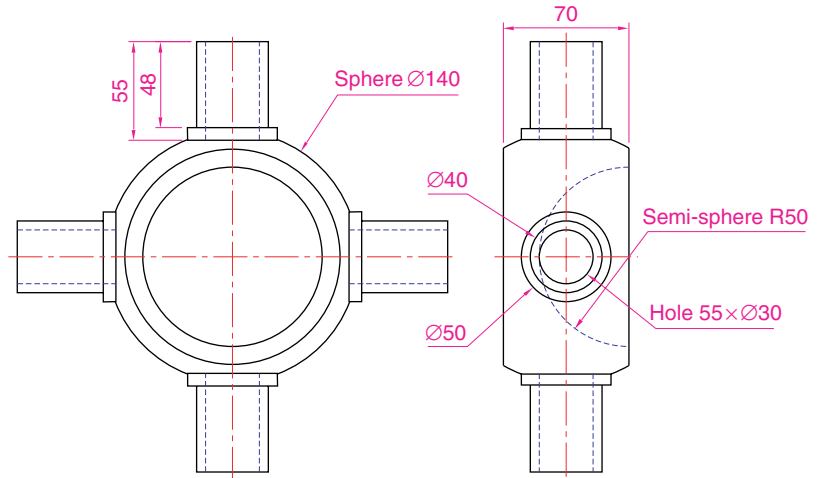
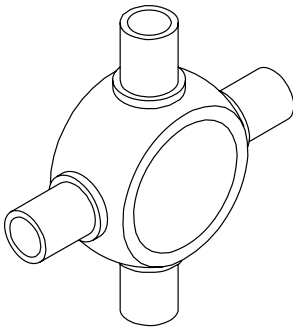

Fig. 14.13 Exercise 2 – working drawing
Fig. 14.14 Exercise 2
- Using the tools **Sphere**, **Box**, **Union** and **Subtract** and working to the dimensions given in Fig. 14.13, construct the 3D solid model as shown in the isometric drawing in Fig. 14.14.